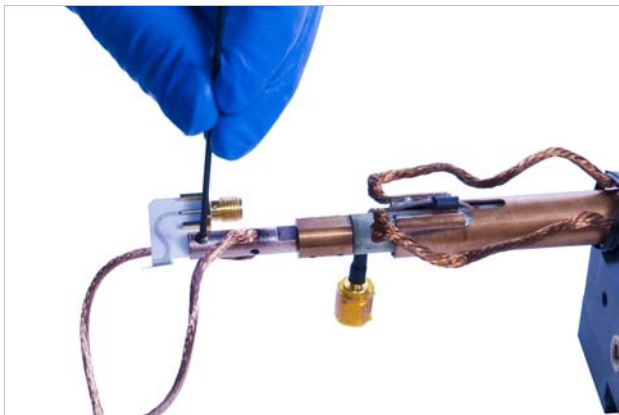

FIGURE 3-35 Loosening the probe mount set screws
- Using the 1.5 mm hex driver, loosen the visible probe mount set screw (FIGURE 3-35).